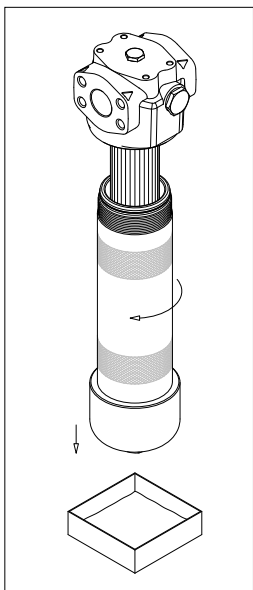

fig. 4
- (Fig. 4) Unscrew the filter bowl after placing a vessel to collect the operating fluid